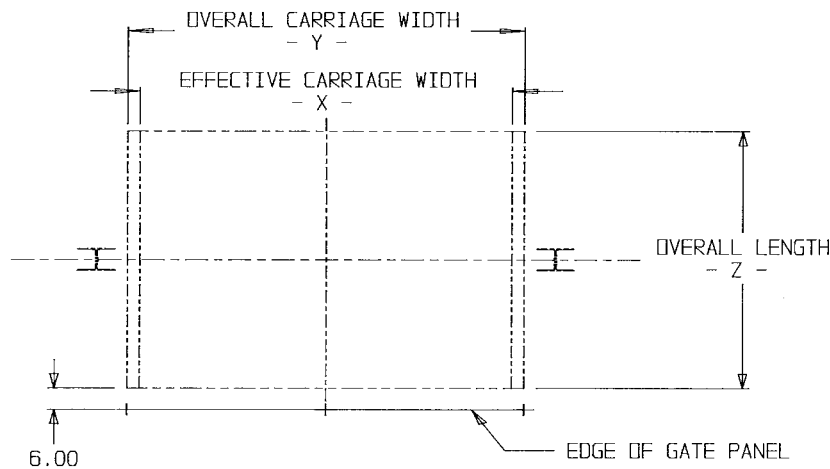

Figure 2
2. Bolt the trolley channel header to the (3) gate posts with the hardware provided.
3. If not already attached, bolt the (2) trolleys to the top of the panel using the 1/4" eye bolt and hex nuts supplied. You will use three hex nuts on the eye bolt. One is installed on the eye bolt first, then the eye bolt is installed through the trolley and panel. Then two nuts will be installed on the eye bolt, this will allow you adjust the gate panel up and down to level the gate panel.
6. Locate and mark the center of the lift platform, and using a carpenters square mark a chalk line on the floor to be used to center the gate with the lift. (See figure 2)